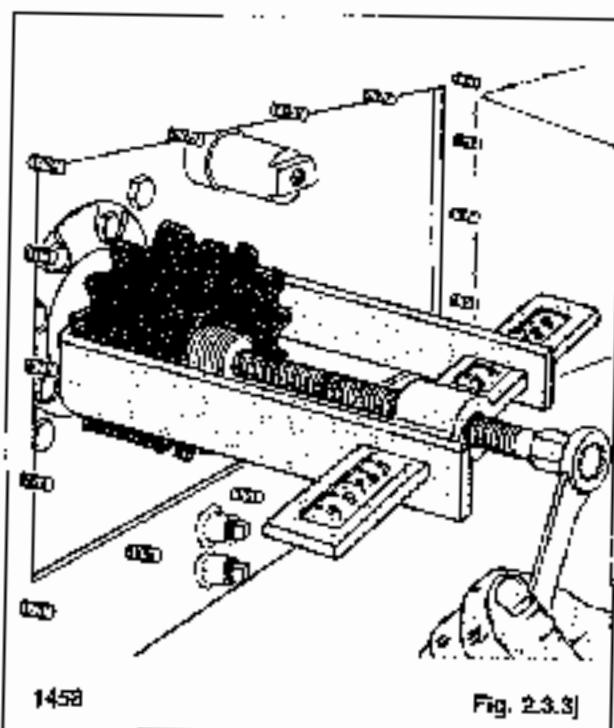

Fig. 2.3.3
14. Using a proper gear pulier, remove the sprocket and key from the torque motor shaft (fig. 2.3.3) on the T103. The T133 torque motor can be removed with the sprocket attached.